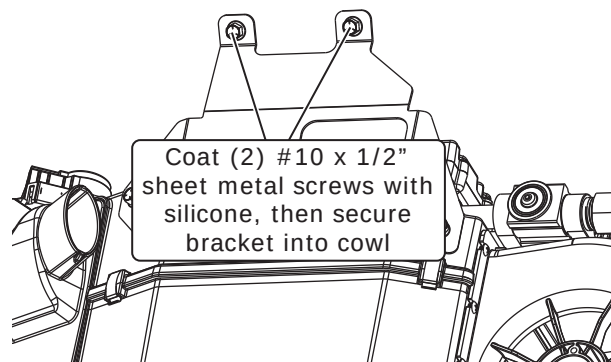

Figure 5
6. Lift unit into position. Using the dash mounting bracket as a template, mark and drill (2) pilot holes into the cowl. Coat (2) #10 x 1/2" sheet metal screws with silicone, then secure the bracket into the cowl (See Figure 5, below).